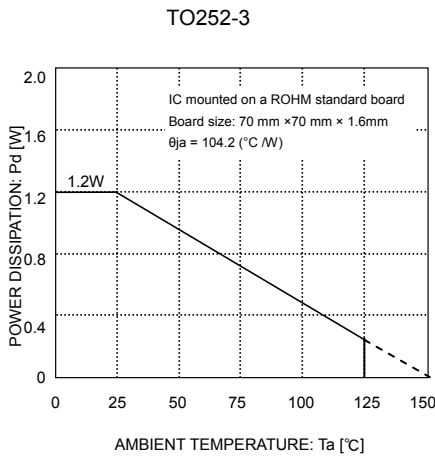

Fig.19
Refer to the dissipation reduction illustrated in Figs. 19 to 21 when using the IC in an environment where $T_a \geq 25^\circ\text{C}$. The characteristics of the IC are greatly influenced by the operating temperature. If the temperature exceeds the maximum junction temperature T_{jmax} , the elements of the IC may be damaged. It is necessary to give sufficient consideration to the heat of the IC in view of two points, i.e., the protection of the IC from instantaneous damage and the maintenance of the reliability of the IC in long-time operation.
In order to protect the IC from thermal destruction, the operating temperature of the IC must not exceed the maximum junction temperature T_{jmax} . Fig. 19 illustrates the power dissipation/power reduction for the TO252 package. Operate the IC within the power dissipation P_d . The following method is used to calculate the power consumption P_c (W).